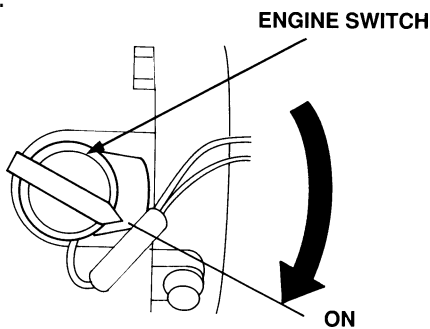

Figure 13. Engine ON/OFF Switch (ON Position)
- Place the **engine ON/OFF switch** (Figure 13) in the "ON" position.